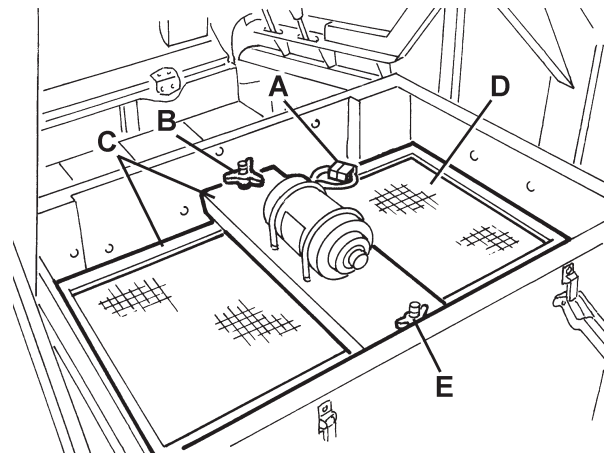

Figure 13
15. Disconnect the connector (A, Fig. 13) from the filter shaker.
16. Unscrew the knobs (B, Fig. 13) and remove the filter mounting frame (C).
17. Remove the dust filter (D, Fig. 13).